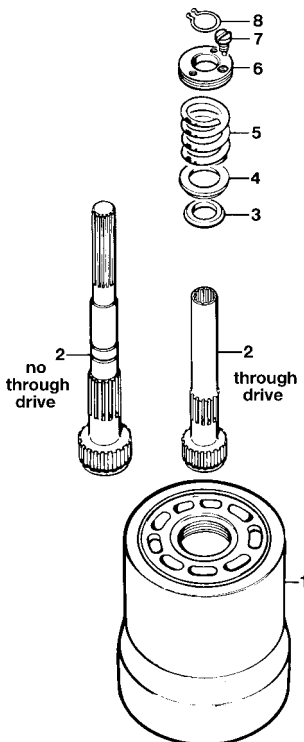

FIGURE 4
See figure 4. Install auxiliary shaft (2) large spline end first into counterbore in face of barrel spline.
PARTS LIST FOR FIGURE 4 (P24)
Remove retaining ring (8), figure 4.
After seal is replaced re-install retaining ring (8), figure 4 and reassemble auxiliary pump and unit per assembly instructions.